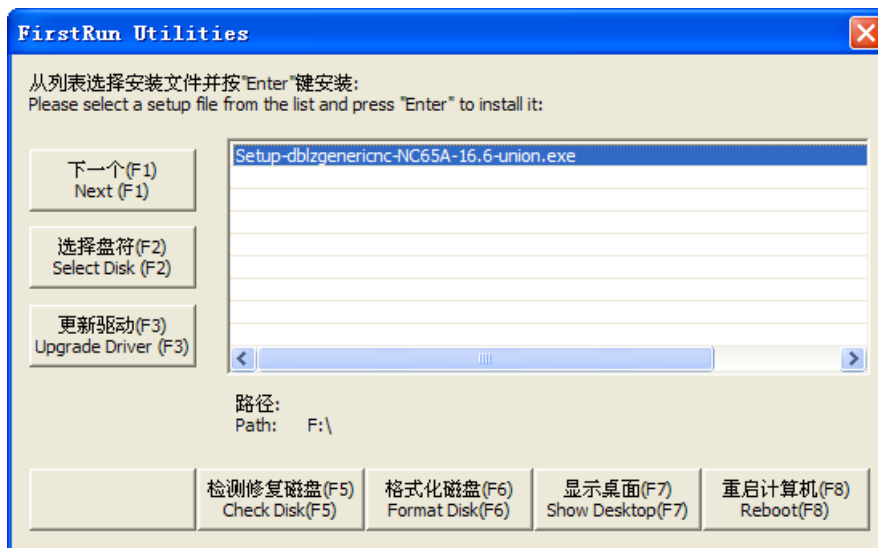

Fig. 7-1 Dialog of “FirstRun Utilities”
- 1) Insert the USB flash drive with the software to be installed, and then power on the system, the dialog of FirstRun Utilities to appear, as shown in Fig. 7-1.